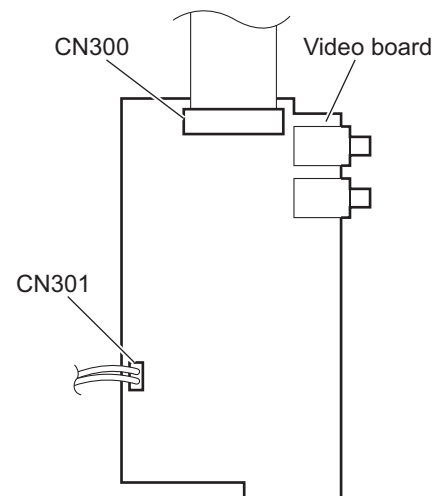

Fig.13
3.1.6 Removing the video board (See Fig.13)